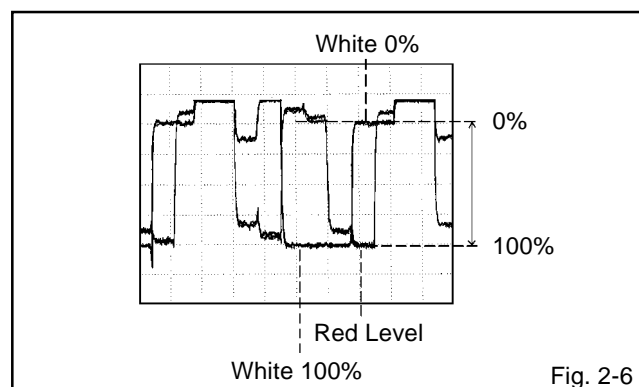

Fig. 2-6
7. Press the VOL. UP/DOWN button on the remote control until the red color level is adjusted to $100 \pm 5\%$ of the white level. (Refer to **Fig. 2-6**)